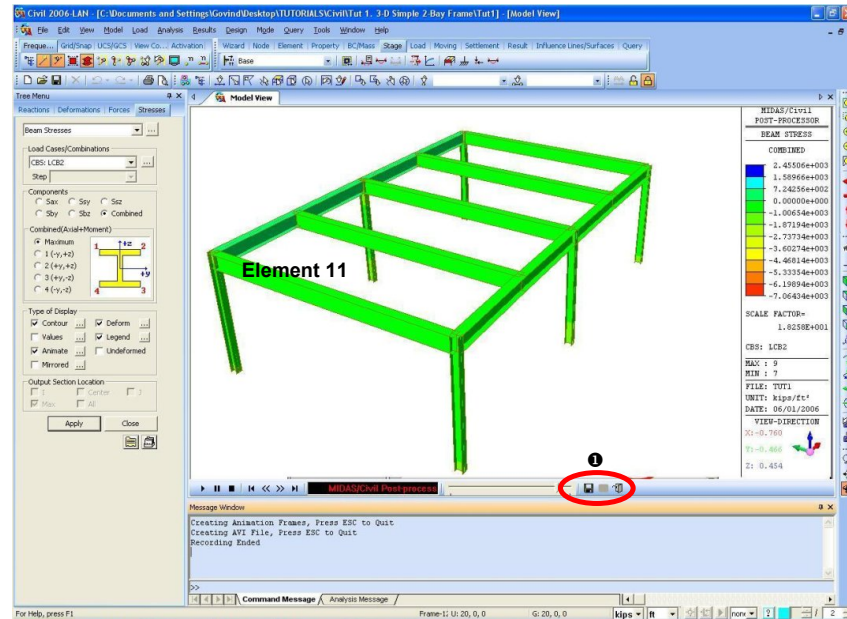

Figure 1.37 Animation Window
7. Click  **Record** as shown in Fig.1.37–1.
Once the above procedure is completed, wait a while. The animation reflecting the effects of combined stresses and deformed shapes appears on the screen as shown in Fig.1.37.
4. Click the **Element Number** field once, then select element **11** in the **Model View** window (Fig.1.37).